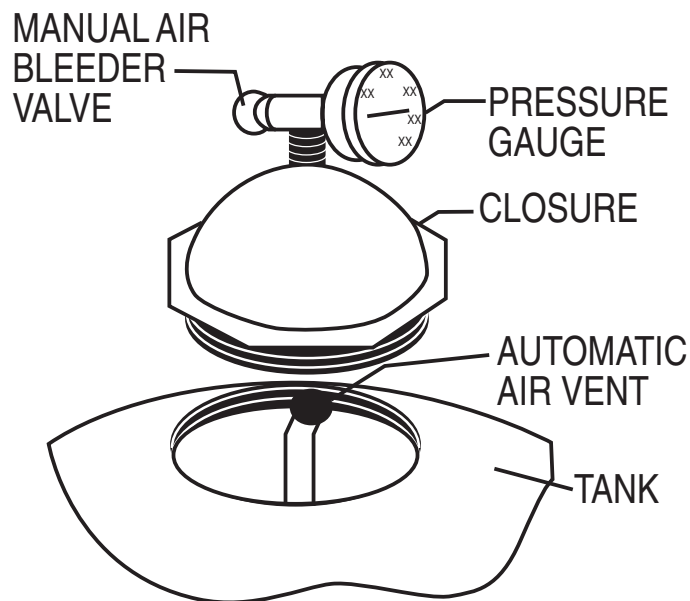

Figure 1.
- Fill the tank about half full of water. Pour pea gravel first (if used) and then the sand into the top of the filter at a slow rate so that the impact of the filter media does not damage the laterals. See Table 2 for the proper amounts of sand and gravel. Fill the filter to the proper level to maintain freeboard, as shown in Table 2. Be certain the automatic air vent is protruding into the top of the closure as indicated below in Figure 1. Ensure that the automatic air vent is in the center of the filter closure. Wash away all sand around the threaded opening at the top of the tank.